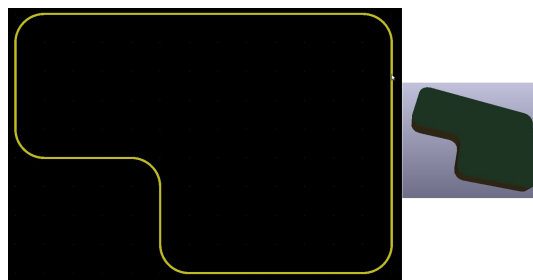

Figure 33.9: The board outline with completed rounded corners.
Start by clicking on the grid dot that is 1.27 mm horizontally and 1.27 mm vertically away from the corner, outside the outline (1). Move the mouse pointer right, on the existing line, and click to define the radius (2). Then draw the arc so that it meets the horizontal line (3). Finally, delete the two straight lines that make up the corner, and replace them with new lines that meet the arc. In Figure 33.9 you can see the completed board outline with rounded corners.